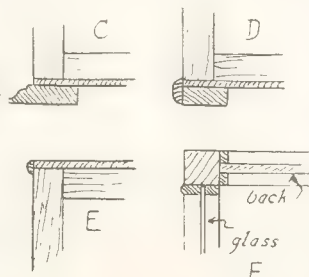

Fig. 3—Base and cover joints
Glass will be required for front and ends of the case, but for the back, wood can be substituted. The detail (F) in Fig. 3 shows the back, which can be of plywood or substitute board, fitted in and kept in place with a plain slip of wood outside. The outside glass beading is of $\frac{1}{8}$ in. by $\frac{1}{2}$ in. section wood, the outer edges of which are neatly rounded. Cut and mitre them to fit each panel
At the edges of the base a $\frac{3}{8}$ in. by $1\frac{1}{2}$ in. moulding can be mitred round, fixed with glue and screws, as at (C) in Fig. 3. This by the way covers only the front and ends, the back being a plain strip, level with the bottom of the case, and not extending beyond. Alternatively, a plain $\frac{3}{8}$ in. by $1\frac{1}{2}$ in. strip of wood can be used here, with a half-round or moulded strip covering the edges of both strip and bottom, as at (D). The moulded strip is omitted at the back of the case.